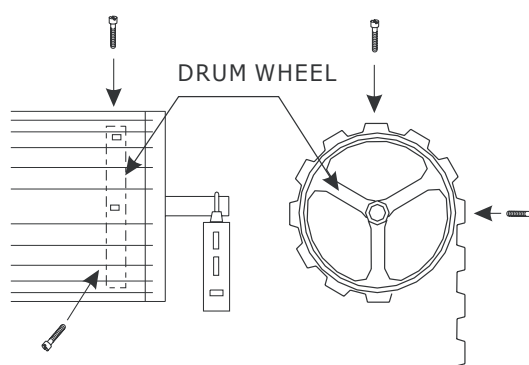

Fig. 5
- Open the door slightly to access the marked positions. Secure the curtain to drum wheel using self drilling screws (two on each end). The screws should be at least 90 degrees apart as per Fig 5.